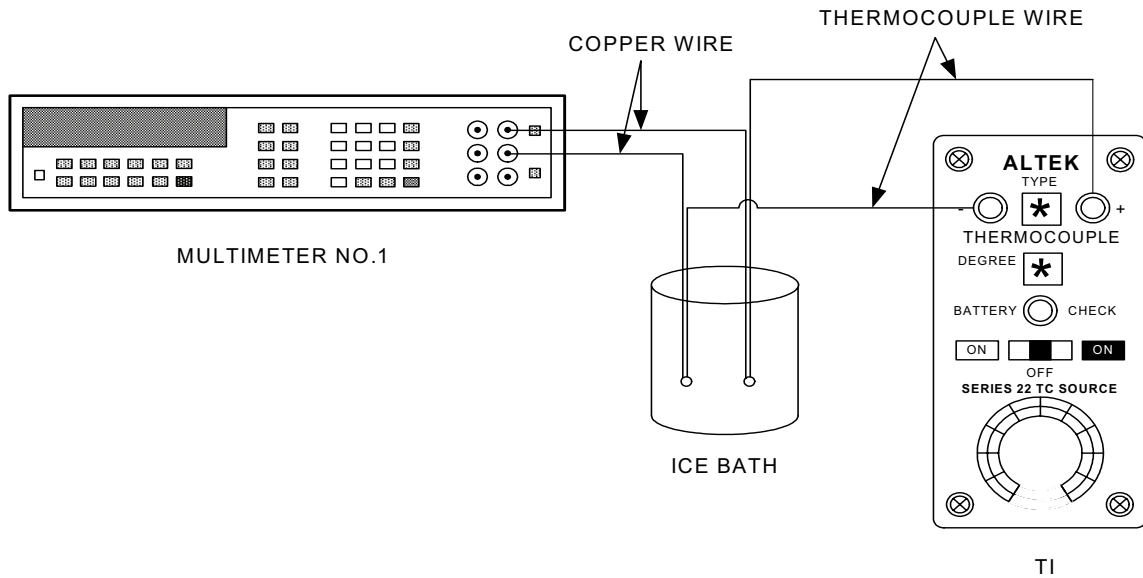

Figure 1. Equipment setup.
c. Connect equipment as shown in figure 1.